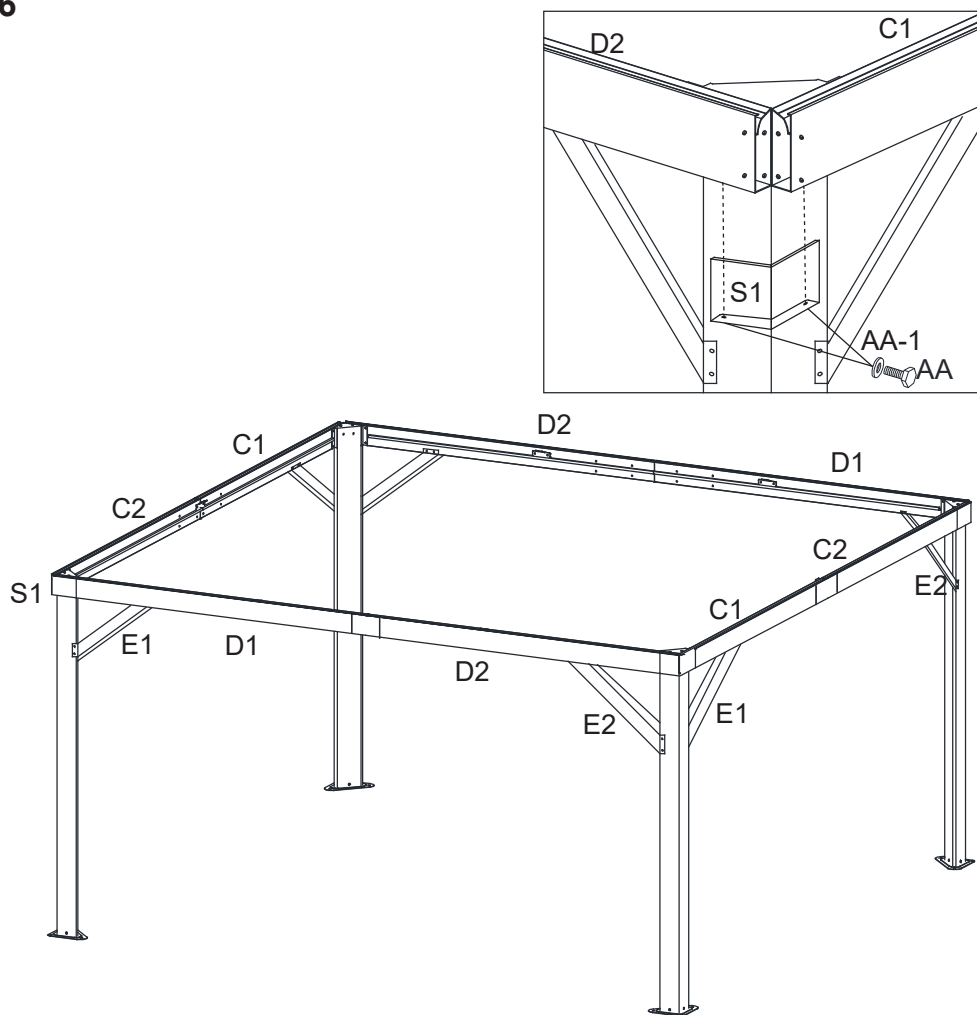

Figure 6
6. Attach Corner Lintel Cover (S1) to Long Lintels (C1 and D2) and Short Lintels (C2 and D1) with Bolts (AA) and Steel washer (AA-1). See Figure 6.